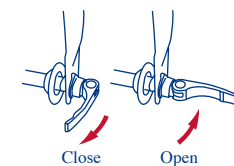

Fig. 5
- Close the lever (Fig. 5) and you should feel significant resistance and the wheel should be held tightly. If you do not, open the lever and tighten the finger nut a bit more and close the lever again. Continue to do this until the wheel is held tightly in the fork. **DO NOT OVER TIGHTEN.**